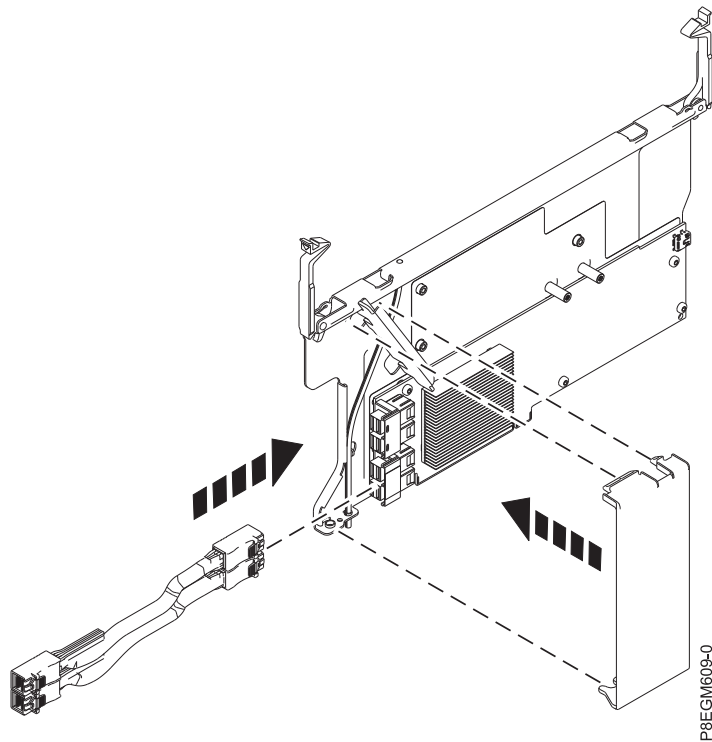

Figure 5. Installing the air flow cover
12. Install the air flow cover on the SAS RAID internal adapter. See Figure 5 on page 7.